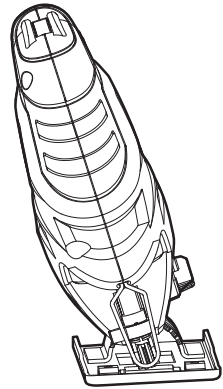

FIG.5
2. Move the base plate forward and tilt it until the desired angle is obtained the angle can be between 0° and 45° (left and right). (See Fig. 5)